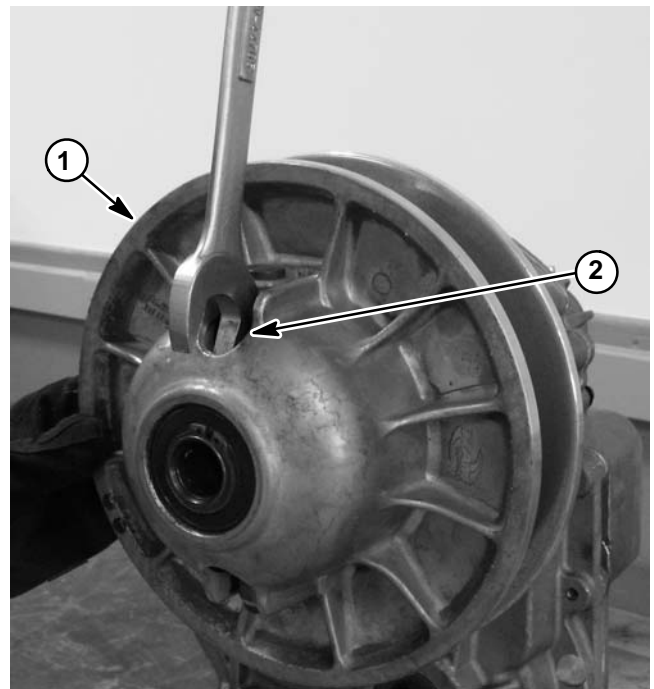

Figure 29
3. Use 1" open end wrench or equivalent in opening of secondary clutch (Fig. 29) to pry clutch sheaves apart and allow drive belt to drop down between secondary clutch sheaves. This will allow slack in drive belt.
1. Use 1" open end wrench or equivalent in opening of secondary clutch (Fig. 29) to pry clutch sheaves apart.